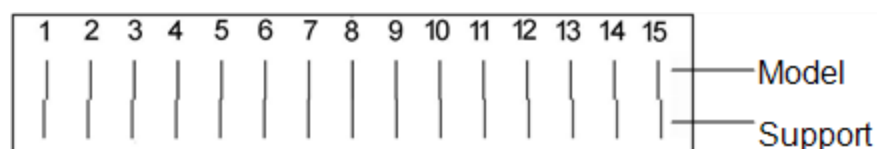

Figure 6-63 Sample head-alignment test
- Optimum head alignment is shown when the two #8 lines, in the upper and lower rows, are aligned, Figure 6-63. In the example shown, no change to the head alignment is necessary. If other lines in the set are aligned, you need to change the alignment—in the next wizard screen.